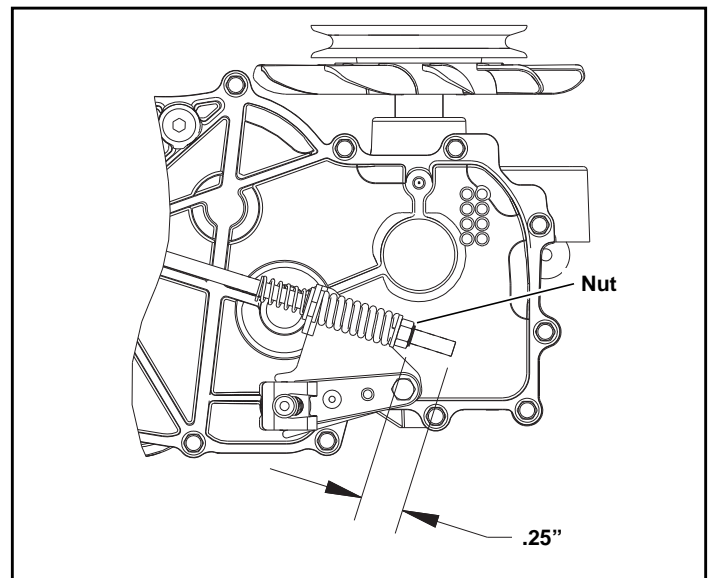

Figure 4-9
3. Adjust the nylock nut on the end of the brake rod so that 0.25" of thread is showing. Repeat for other side. Figure 4-9